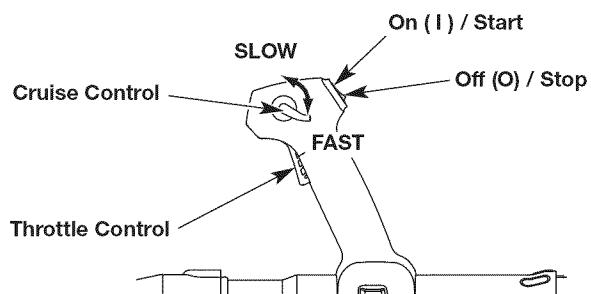

Fig. 10
NOTE: There is no need to turn the unit on. The On/Off switch is in the ON (I) position at all times (Fig. 10).
NOTE: **DO NOT** squeeze the throttle control until step 9 (Fig. 10).
2. Press and hold the On/Off switch in the OFF (O) position until the engine comes to a complete stop (Fig. 10).
- NOTE:** There is no need to turn the unit on. The On/Off switch is in the ON (I) position at all times (Fig. 10).
- NOTE: DO NOT** squeeze the throttle control until step 11 (Fig. 10).
- Use the cruise control to make continuous operation easier (Fig. 10).